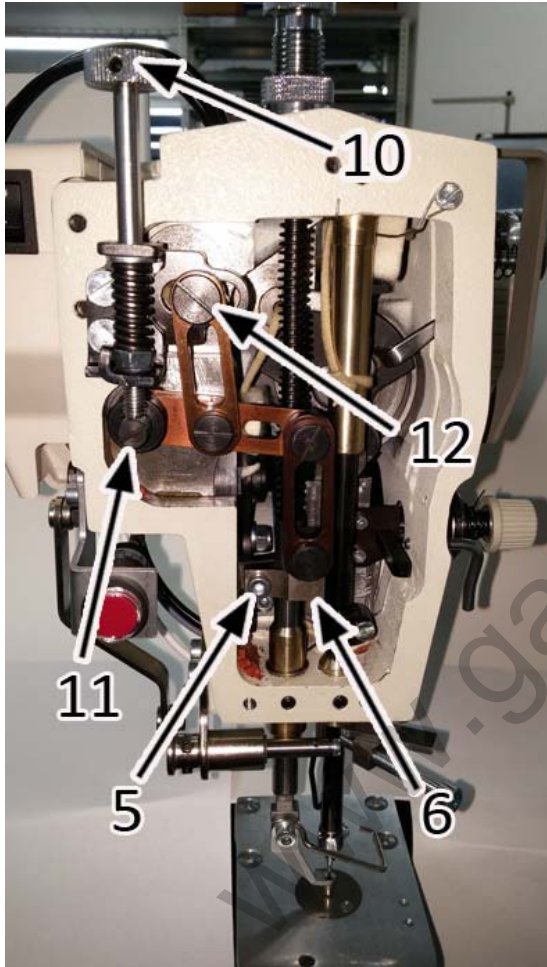
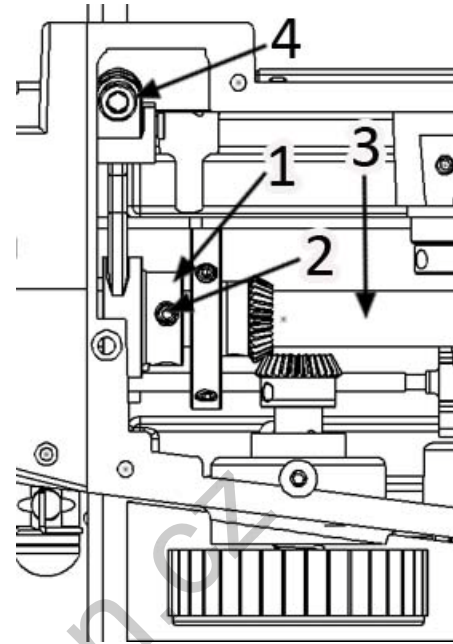
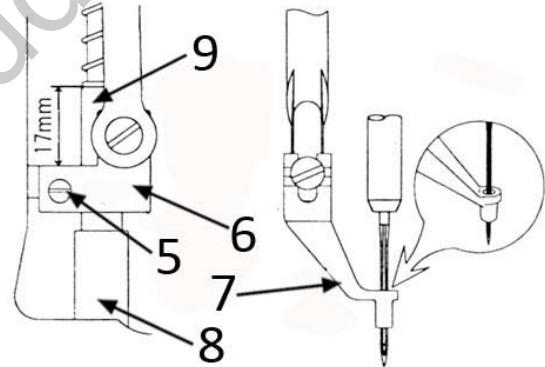

Fig. 25
Fig. 26
Fig. 27
- A. Set the needle bar to the lower reversal point by turning hand wheel. Loosen screws (2) of the eccentric (1) and set this eccentric to the position where the screw (2) is in upper position. The eccentric (1) is placed on the main shaft (3), Fig. 26.
- B. Set the position of the driver (6) in value 17mm from the edge of presser bar (9). At tightening the screw (5) check the position of the needle in the middle of sub presser foot (7), Fig. 25, 27.
- C. Loosen safety screw (4), Fig. 26 and set the screw (12) to the end right position in round slot of the lever, Fig. 25.
- D. Set the screw (11) so that there is touch with stopper of hand screw (10), Fig. 25.
- E. Set the play between driver of presser bar (6) and bushing of presser bar (8) in value 9mm, Fig. 27. After that tighten the screw (4), Fig. 26.
- G. Set needed height of the stroke of sub presser foot (7). This is done by moving of the screw (12) in round slot of the lever, Fig. 25.
- H. The height of presser foot (7) is set in comparison with thickness of the material by hand screw (10).